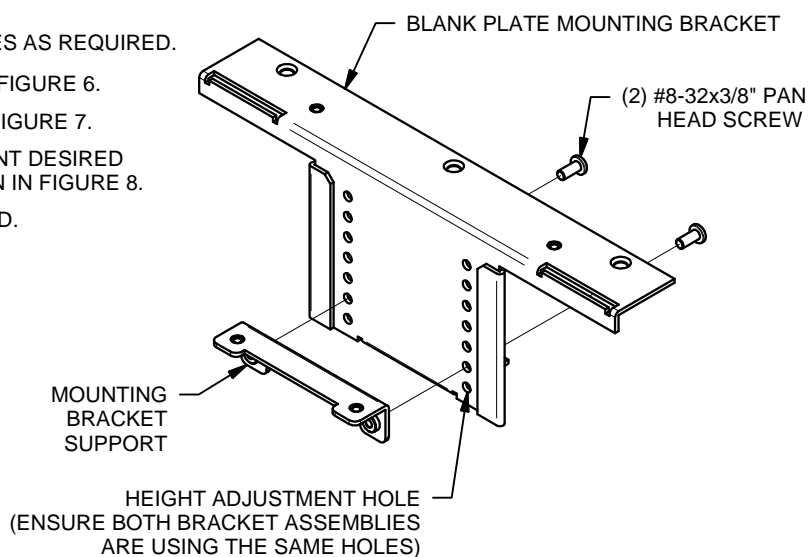

FIGURE 6
3. ASSEMBLE BRACKET ASSEMBLY AS SHOWN IN FIGURE 6.